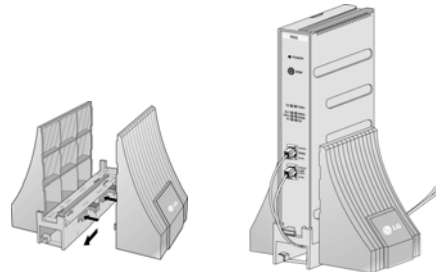

Figure 3.2-1 WHLD/DHLD Installation
- 2) Assemble the WHLD or DHLD, refer to Figure 3.2-1, and mount the LDK-RSG in the holder mounting kit.
As depicted in Figure 3.2-1, assemble the WHLD/DHLD and mount the LDK-RSG in the WHLD or DHLD.
To mount the LDK-RSG on the WHLD, push the LDK-RSG in the direction of the arrow as shown in Figure 3.2-1(a). When you remove the LDK-RSG from the WHLD, pull the Ejector on the bottom of the front panel.
In case of the DHLD, combine the pieces of the DHLD as shown Figure 3.2-1(b), and then insert the LDK-RSG from top position.